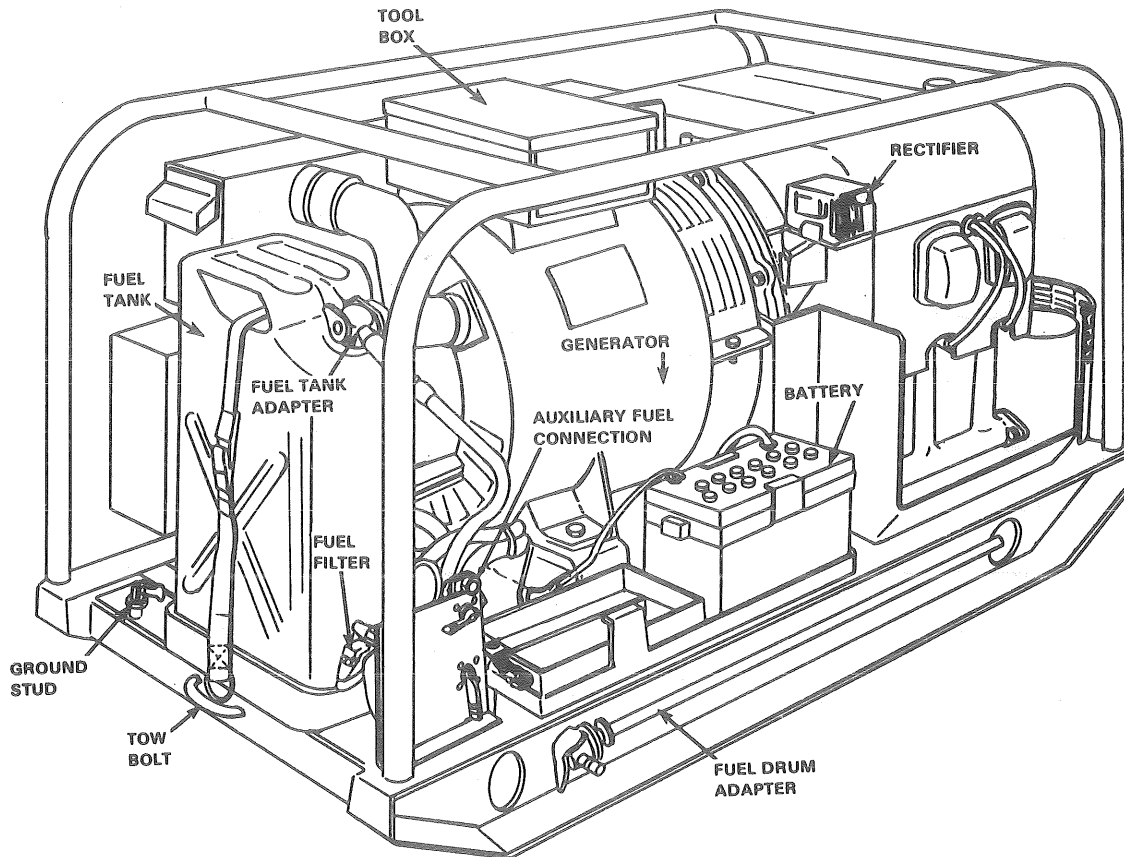

Figure 1. Generator Set 10 KW AC.
2. Ground generator set. (Refer to fig 1 and TM 5-6115-275-14, para 2-2b(1)(c) and 4-4b(5).)